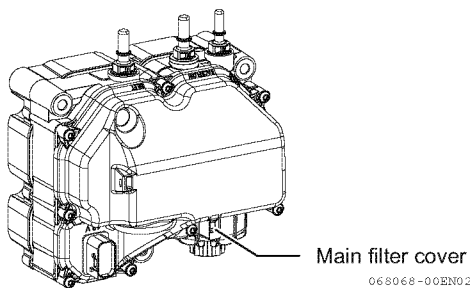

Fig. 25-39
- 1 - The SM is equipped on the driven machine side as shown in Fig.25-39. For the equipped placed, refer to the manual provided by the driven machine manufacturer. The main filter is equipped on the bottom of the SM.